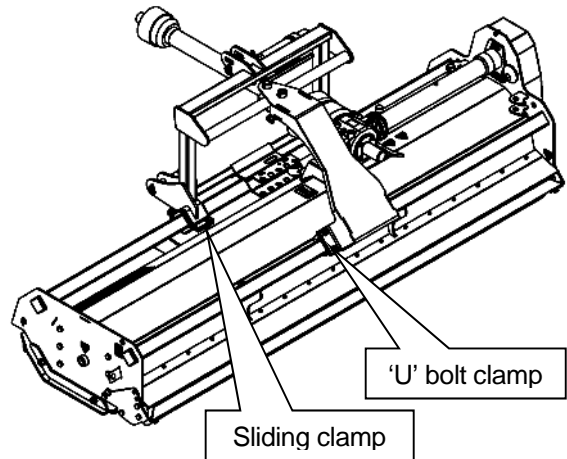

Figure 1.8
- 1.5.1.2 The machine is normally supplied configured for rear mount and 1000rpm PTO drive, see Figure 1.8.